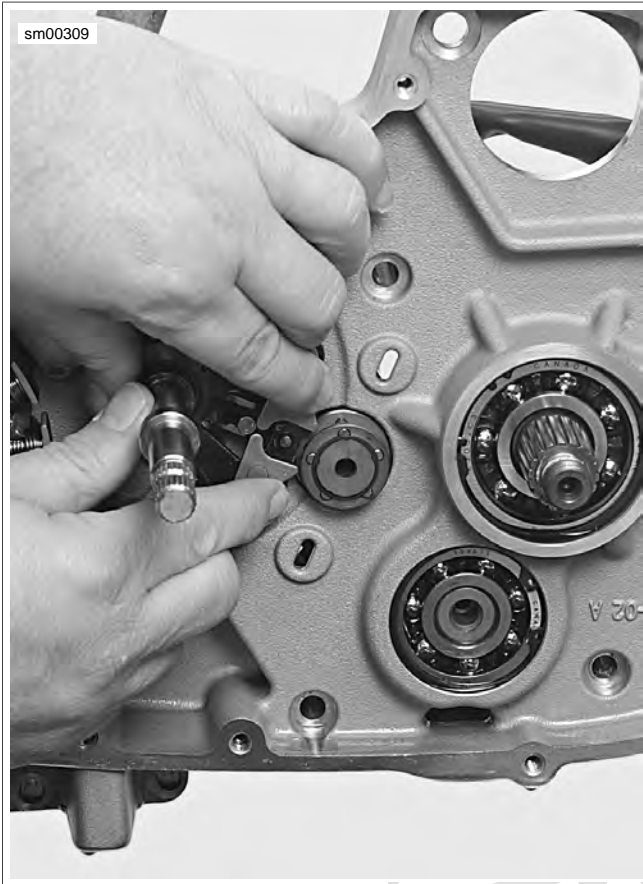

Figure 5-49. Removing Shifter Shaft Assembly
11. See Figure 5-49. Remove shifter shaft assembly.